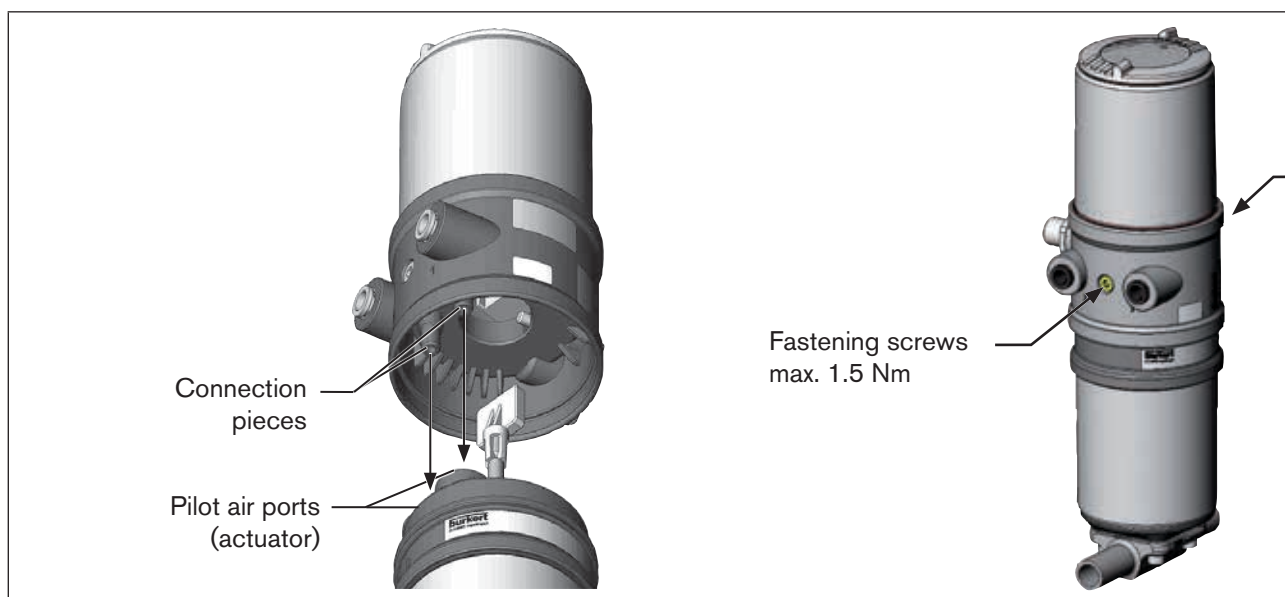

Figure 20: Installation of the positioner
2. the connection pieces of the positioner can be inserted into the pilot air ports of the actuator (see also "Figure 20").